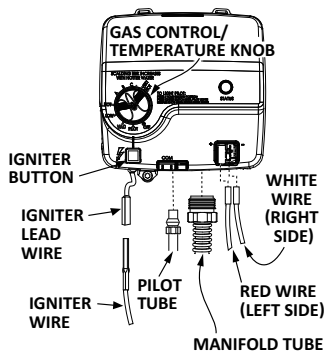
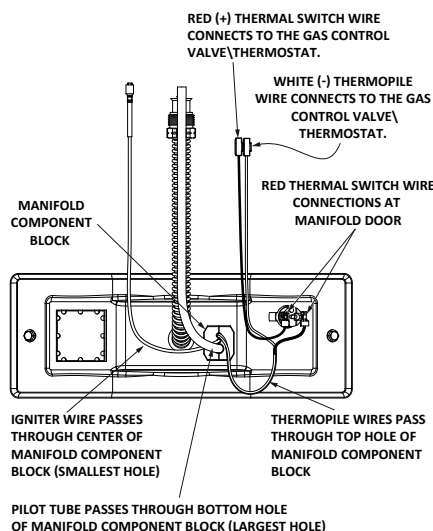

Figure 15.
Figure 21.
5. Disconnect the following from the gas control valve/thermostat: pilot tube (7/16" wrench), igniter wire (from the igniter lead wire), and manifold tube (3/4" wrench). See Figure 15.
6. Disconnect the white and red wires from the gas control valve/thermostat (Figure 15). Use needle nose pliers to grip the connector(s). **IMPORTANT:** Grip the connector carefully to prevent damage. Do not grip or pull the wires themselves.
4. Reinstall the manifold component block in the manifold door. Ensure that the pilot tube and wires are positioned as shown in Figure 21.
6. Reconnect the manifold tube (3/4" wrench) and pilot tube (7/16" wrench) to the gas control valve/thermostat. See Figure 15 on page 17. Do not cross-thread or apply any thread sealant to the fittings.
7. Connect the white and red wires to the gas control valve/thermostat as shown in Figure 15, page 17. Also, ensure that the red thermal switch wires are connected to the thermal switch (TCO switch) on the manifold door. See Figure 21 on page 18.
8. Reconnect the igniter wire. (Figure 15, page 17).
4. Disconnect the igniter wire from the igniter lead wire. Use needle nose pliers to disconnect the red (+) and white (-) thermopile wires. Disconnect the pilot tube (7/16" wrench) and manifold tube (3/4" wrench) at the gas control valve/thermostat. See Figure 15 on page 17.